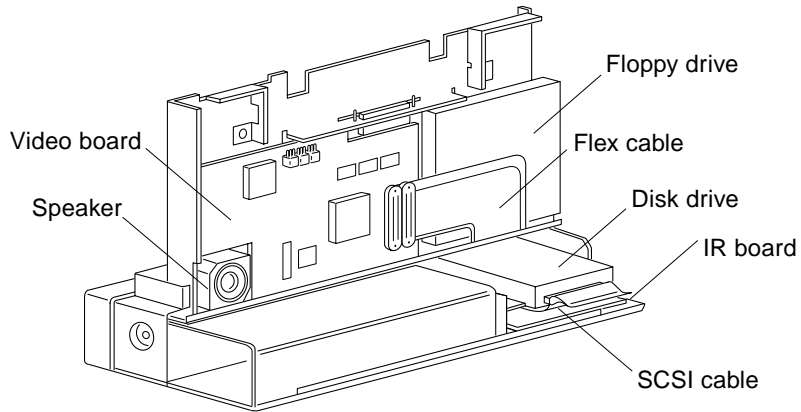

FIGURE 1-3 Front View—Internal
- FIGURE 1-3 shows the internal front view